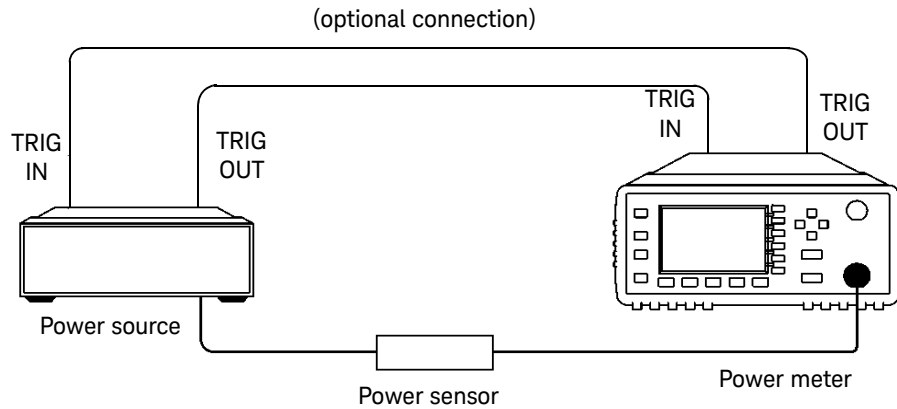

Figure 2-43 TRIG IN and TRIG OUT connection diagram between power meter and power source.
These modes are used to eliminate the need for lengthy test routines, while increasing measurement throughput by reducing overhead of communication with the controller. The sweep feature allows you to make power measurement by quickly stepping through a series of frequencies or power levels. Configuration shown in Figure 2-43 illustrates the triggering connection required to synchronize power meter measurement to the power source settings.
- 2 Connect power meter TRIG OUT to power source TRIG IN using a BNC cable. The same connection is applied for power source TRIG OUT to power meter TRIG IN. See Figure 2-43.